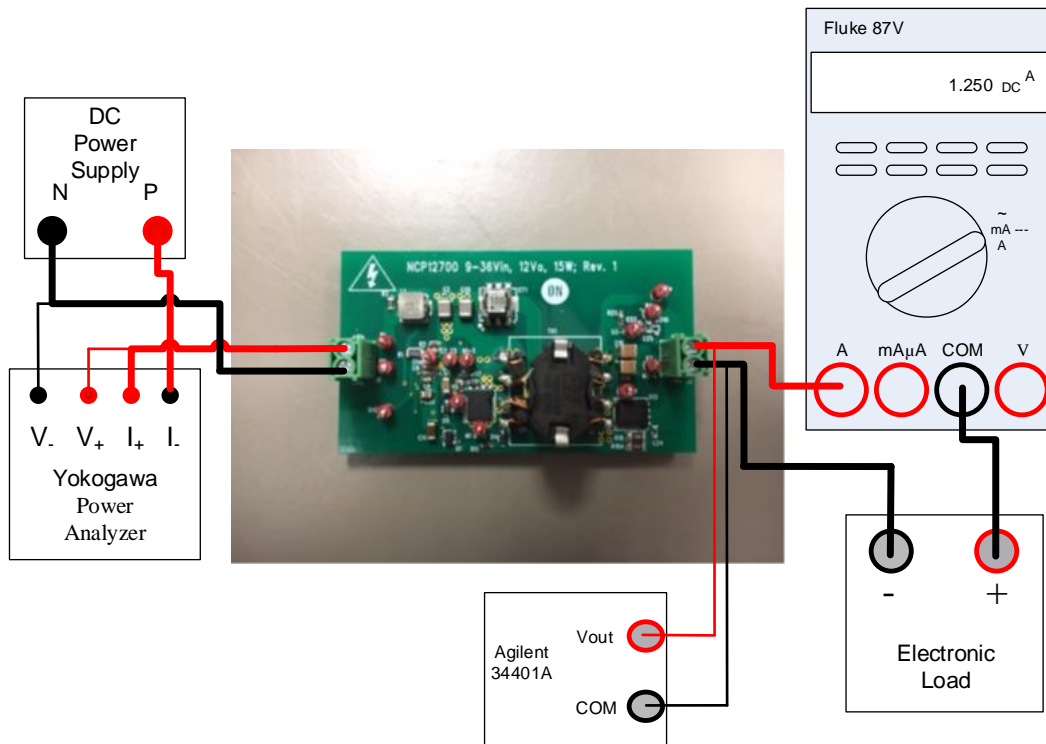

Figure 1: Test Setup
1. Connect test setup per Figure 1.